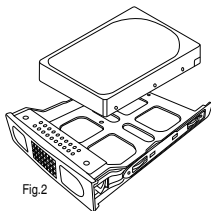

Fig.2
2. Place the HDD into the HDD trays (Fig. 2).